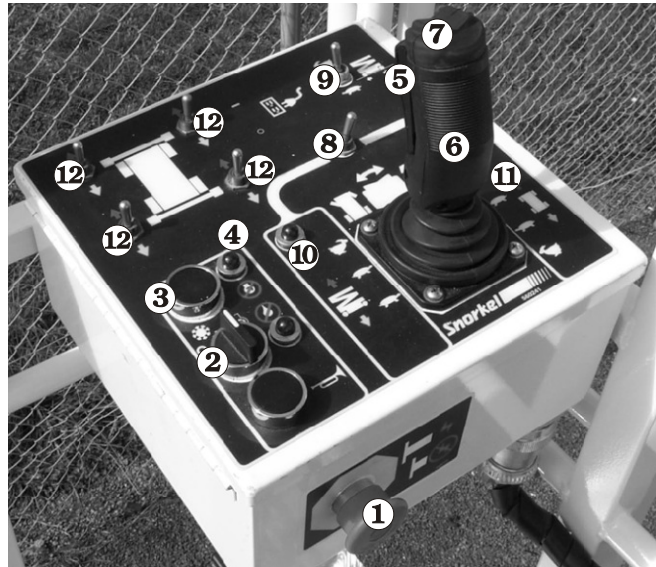

Figure 6.4 - Platform Control Box Controls
The number of each control corresponds to Figure 6.4.
12. **Stabilisers** Each switch corresponds to one of the stabilisers. Pull a switch backward to lower an stabiliser, push it forward to raise the stabiliser (see Figure 6.4).